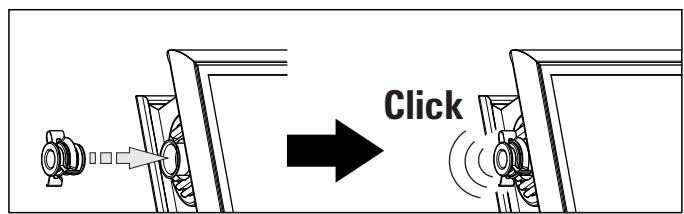

Fig. 4-21 Step 6
- When securing the cable, make sure that no rainwater can run down the cable to the sensor well (installing with drip-off elbow see fig. 4-21).